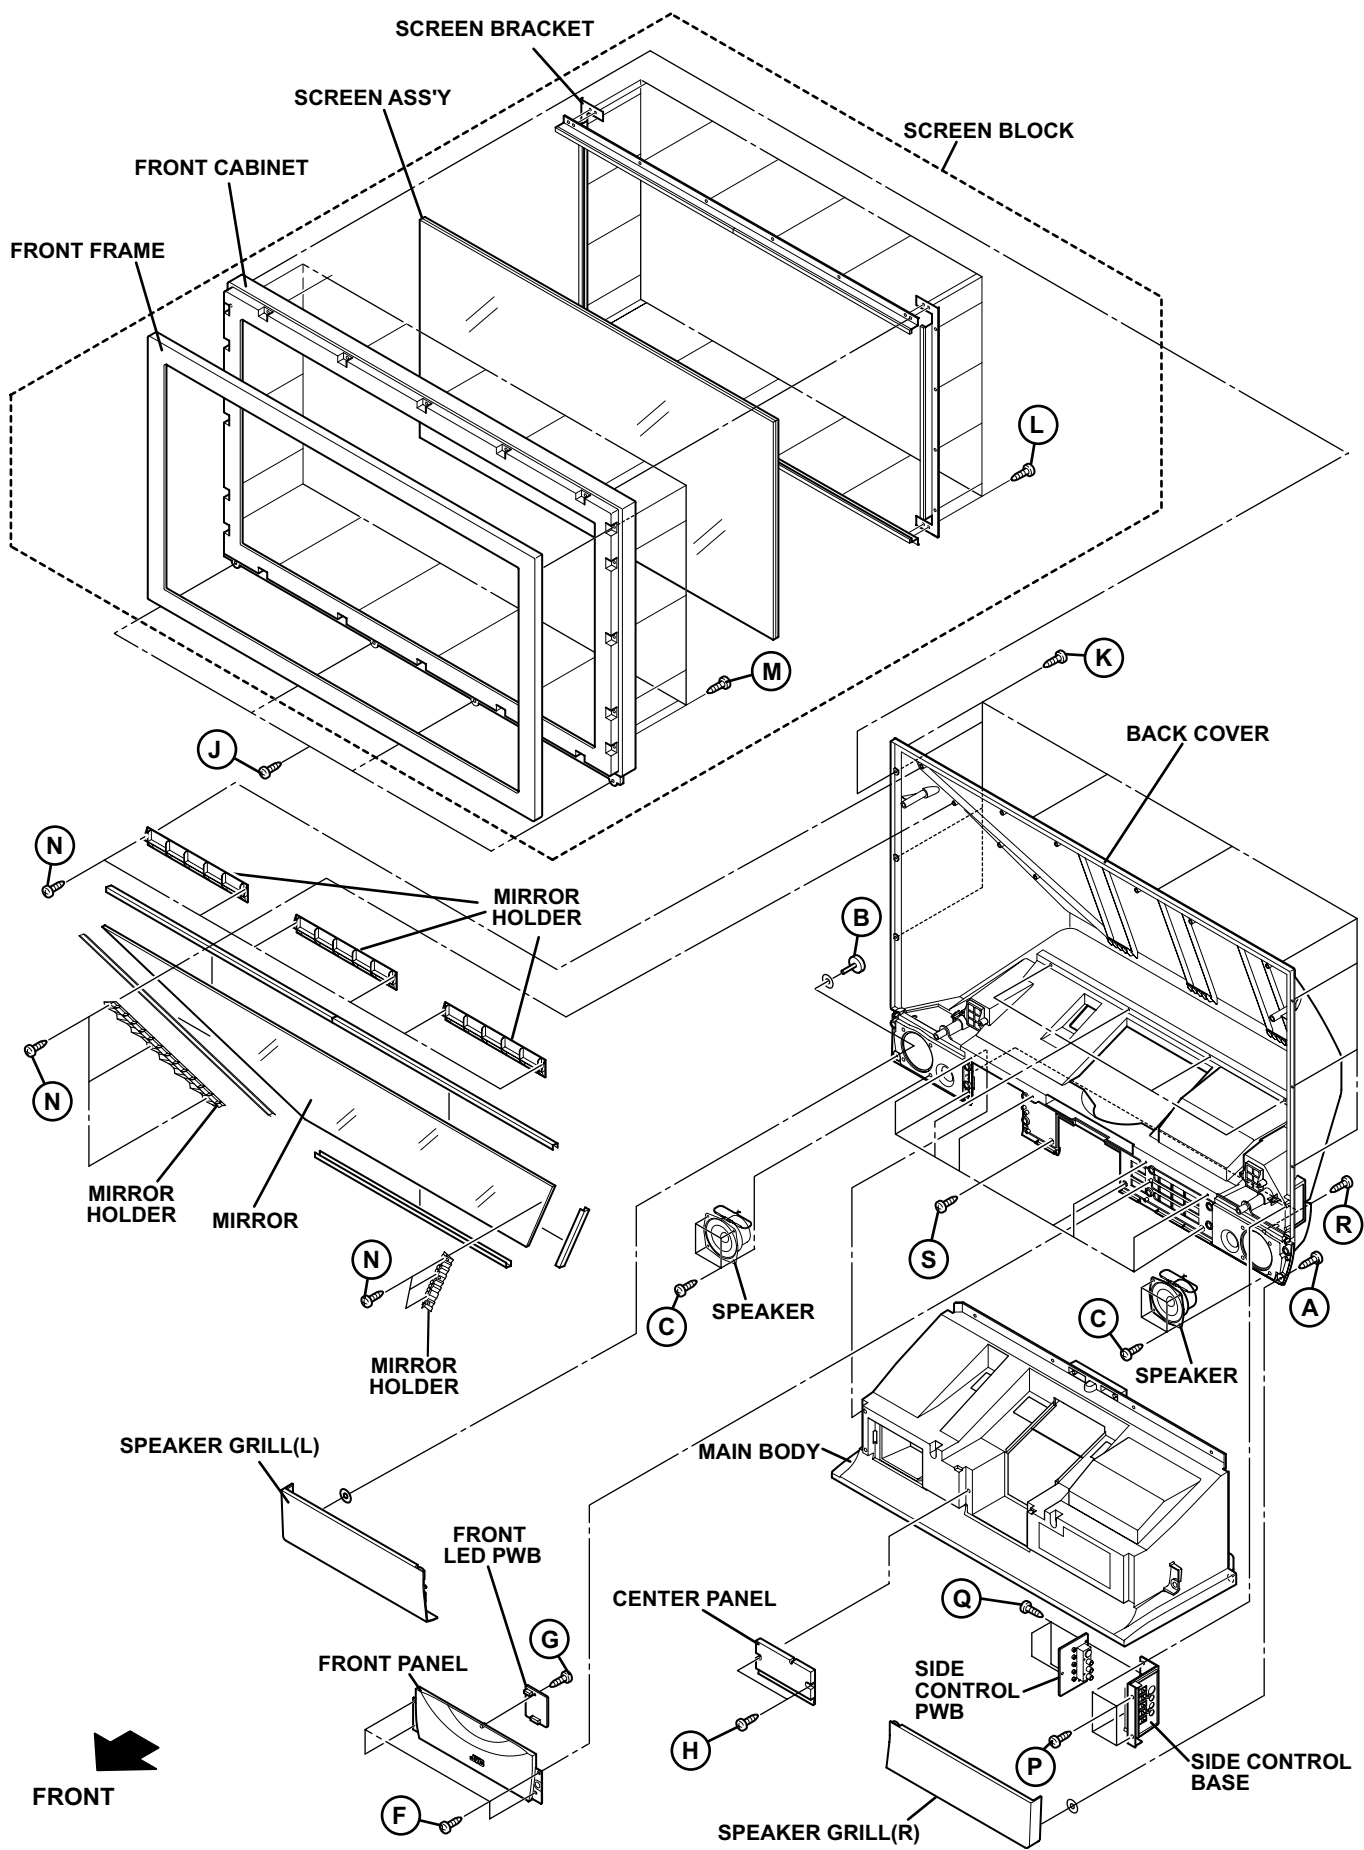

Fig.3
3.1.2.1 REMOVING THE SPEAKER (Fig.3)
3.1.2.2 REMOVING THE FRONT LED PWB (Fig.3)
3.1.2.3 REMOVING THE CENTER PANEL (Fig.3)
- (1) Remove the 2 screws [H].
- (2) Remove the CENTER PANEL.
3.1.2.4 REMOVING THE SCREEN BLOCK (Fig.3)
3.1.2.5 REMOVING THE SCREEN ASS'Y (Fig.3)
3.1.2.6 REMOVING THE FRONT FRAME (Fig.3)
- (1) Remove the 20 screws [M].
- (2) Remove the FRONT FRAME.
3.1.2.7 REMOVING THE MIRROR (Fig.3)
3.1.2.8 REMOVING THE SIDE CONTROL PWB (Fig.3)
3.1.2.9 REMOVING THE MAIN BODY (Fig.3)